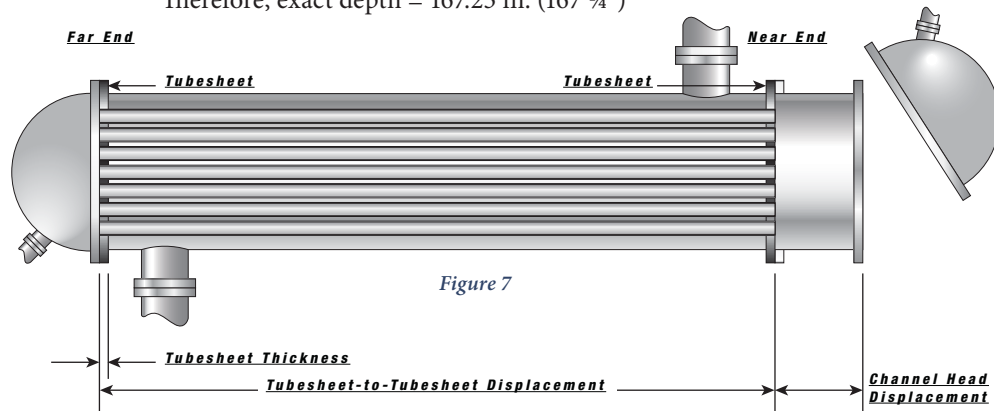

Figure 7
- a) Verify the tubesheet to tubesheet displacement as shown in *Figure 7*.